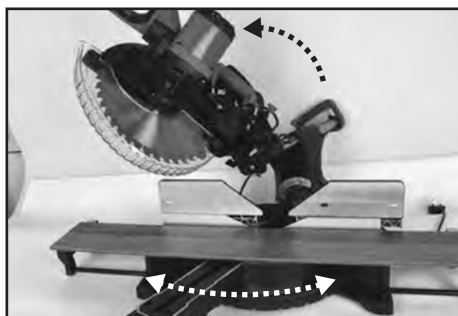

FIG.32
- Loosen the bevel lock (17).
9.6 COMPOUND CUT – FIG.32